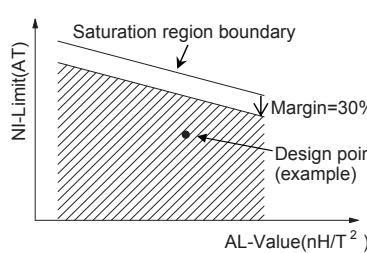

Figure 52. Example of NI-Limit versus AL-Value characteristics
In transformer design, AL-value and N_p must be set in a way that the ferrite core does not saturate. Here, use ampere turn value (AT), the result of $I_{DP(DLY)} \times N_p$ and the graph of NI-Limit (AT) versus AL-value (figure 52 is an example of it). NI-Limit is the limit that the ampere turn value should not exceed; otherwise the core saturates. So use the graph and equation 24, which expresses the relationship of L_p , AL-value, and N_p to appropriately set these values. In addition, target 30% below the NI-Limit curve as a design margin in consideration of temperature effects and other variations, as expressed by the formulas below: